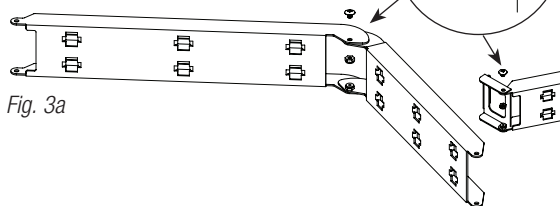

Fig. 3a
2. Attach arms to each other using bolts and lock nuts (*Fig. 3a, pg. 4*).